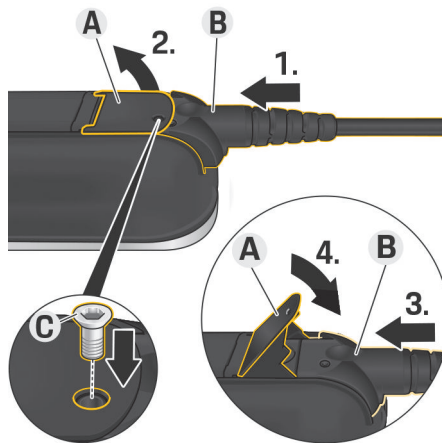

Fig. 38 Connecting cables and securing plugs
- ✓ Lever **A** (Fig. 38) is closed.
1. Insert plug **B** (Fig. 38) into the control unit until you first feel resistance.
2. Lift lever **A** (Fig. 38).
3. Push plug **B** (Fig. 38) in fully.
4. Close lever **A** (Fig. 38).
5. Secure plug **B** (Fig. 38) to the control unit using screw **C** (Fig. 38).